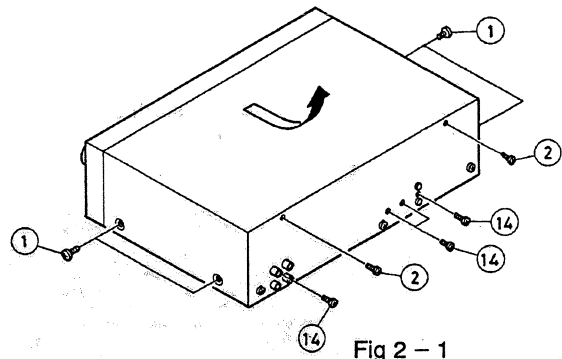

Fig 2 - 1
1. Remove four screws ① retaining the top cover from both side.
2. Remove two screws ② retaining the top cover from the back side.
3. To remove the top cover ,slide in direction of arrow and lift away(refer to Fig 2 - 1)